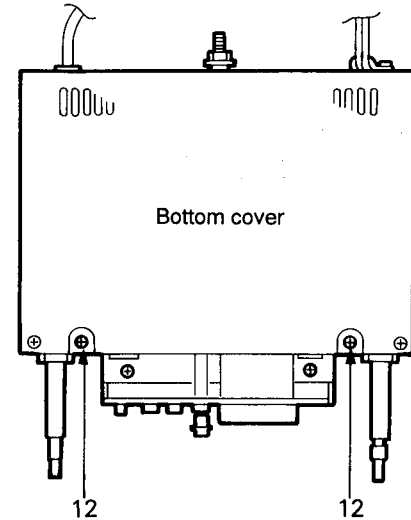

Fig. 4-11
■ **Bottom cover** (Figs. 4-11, 4-12, 4-13)
1. Place the set upside down, and remove two screws (12) retaining the bottom cover.
2. Place the set on its front side and remove two screws (13) retaining the bottom cover.